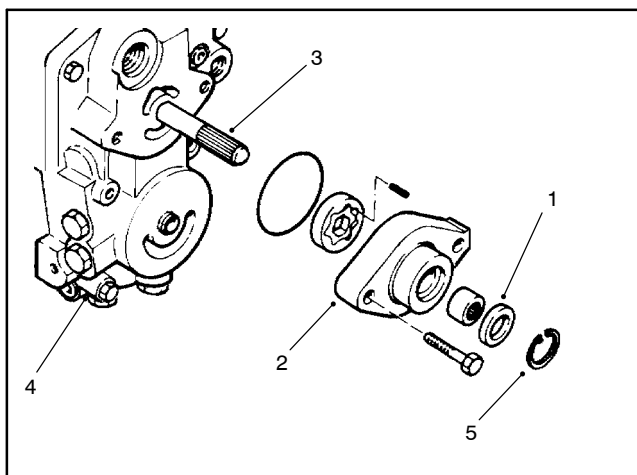

Figure 78
3. Remove retaining ring, then carefully remove seal from bore in charge pump cover (Fig. 78).